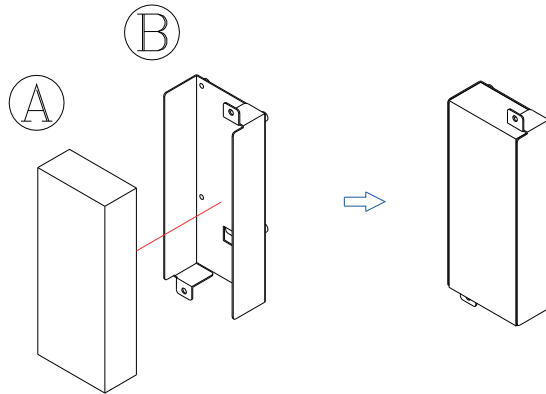

FIGURE 5-7: POWER MODULE ASSEMBLY
1. Refer to Figure 5-7. Insert the power supply (A) to power bracket (B) and fix them together with four FMS M3*5 screws.